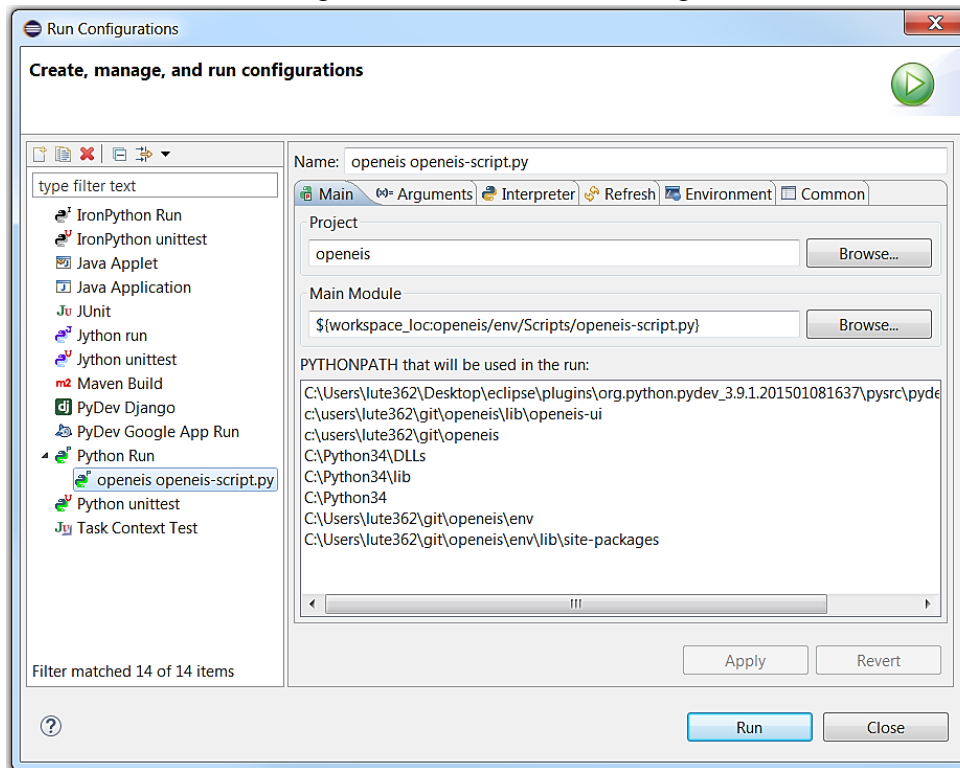

Figure 37: Running an application in the command line – Eclipse Run Configurations Main (Windows OS)
- Figure 37 shows the Run Configurations window for a Windows PC. For a Linux or Mac the path to the Main Module will be different, as noted previously. On the Main tab, ensure that the Main Module is pointed **openeis-script.py**.